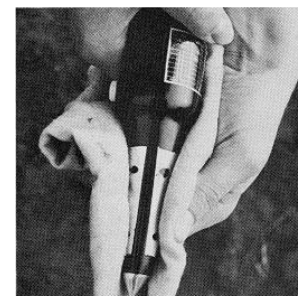

Fig.2
2. The electrode is very vulnerable and should carefully cleaned with water and dried with a clean cloth before and after use (fig.2). This is very important since otherwise the reading is not correct. After cleaning, the electrodes should not get in contact with anything, not even with your hands since these always give off some transpiration, however slight, and this would adversely affect the readings.
4. To measure the moisture content in the soil, press the white button; the moisture content can be read off immediately. After use, clean the electrodes thoroughly with water and wipe off with a dry cloth (fig.2). Normal soil used for cultivation will seldom have a moisture content below 30% as is the case e.g. with dry sand.